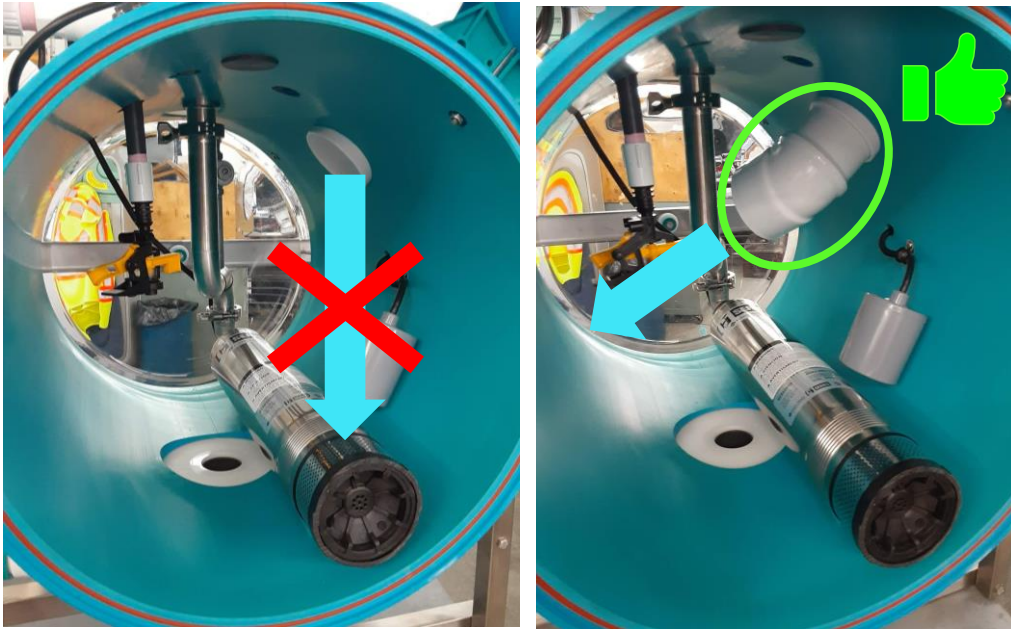

Figure 8: Installation of an angled bend inside the extractor to divert the maple sap flow to reduce air bubbles near the pump suction
- Add an angled bend in the extractor to prevent maple sap from running off at the pump suction (see figure 8 below)